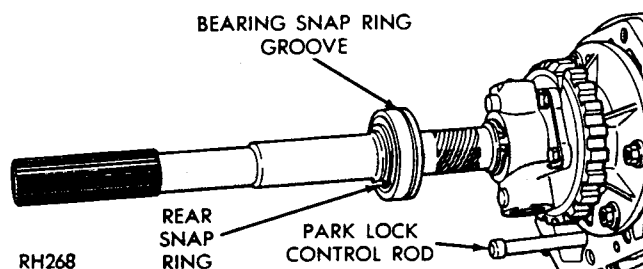

Fig. 8—Output Shaft Bearing
(2) Remove oil seal with Tool C-3985 (Fig. 8).
(1) Using heavy-duty snap ring pliers, remove output shaft bearing rear snap ring and remove bearing from the shaft (Fig. 8).
(2) Install a new bearing on shaft with outer race ring groove toward front, then install rear snap ring. A-727 has a snap ring in front of bearing; A-904T and A-999 do not.